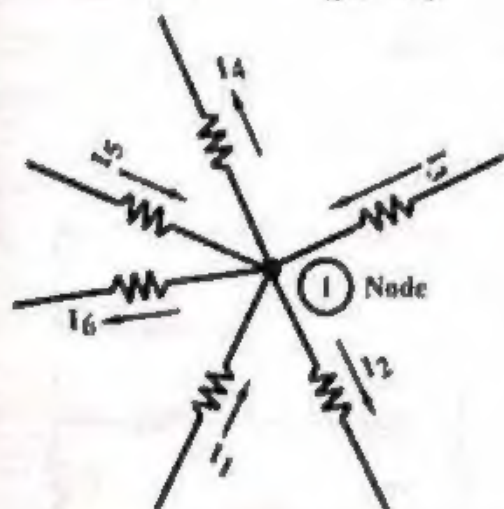

Fig. 1.10 Kirchhoff's Current Law
In fig. 1.10, the currents I_1, I_2, I_3, I_4, I_5 and I_6 is flow through the branches which are connected to a node ①. Currents I_1, I_3 and I_5 entering into the node while the currents I_2, I_4 and I_6 leaving the node. According to Kirchhoff's current law the sum of the currents flowing towards the node must be equal to the sum of the currents flowing out of the node,